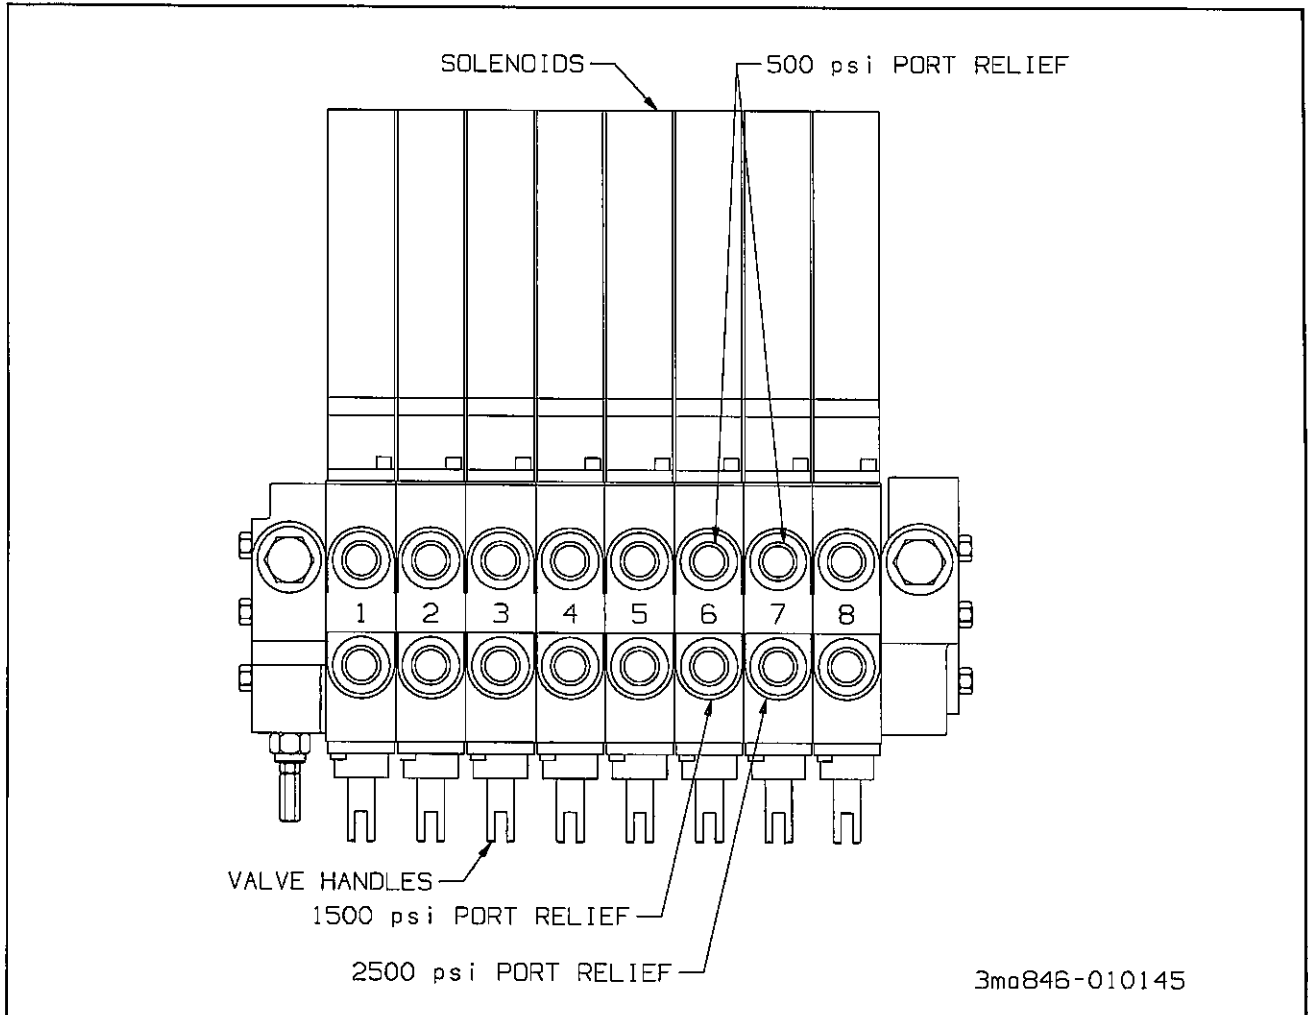

Figure 4-2 Pressure Settings for Control Valve Ports
a. Sections 1 through 5 and 8 on the control valve are set at 2500 psi. Sections 6 and 7 have relief valves. The front ports of section 6 should be set at 1500 psi and the rear port at 500 psi. The front port of section 7 should be set at 2500 psi and the rear port at 500 psi. (See Figure 4-2).